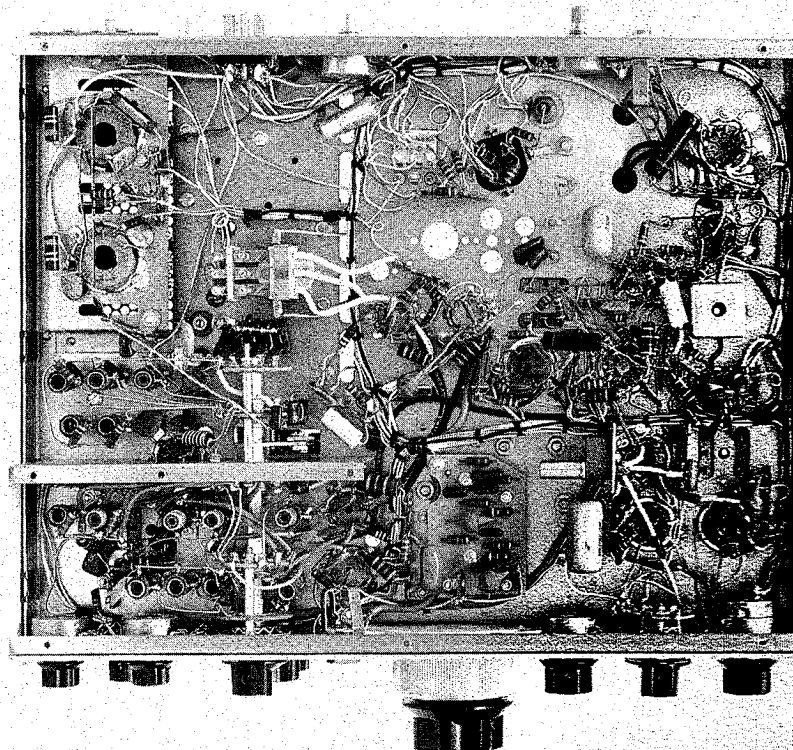

FIGURE 5
1. Remove screen voltage from V4 and V5 by disconnecting the wire from terminal strip immediately adjacent to V5 base. (A, Fig. 5).
2. Connect VTVM across 402,1K resistor on terminal strip, using 50 volt scale. (Points B and C, Fig. 5)